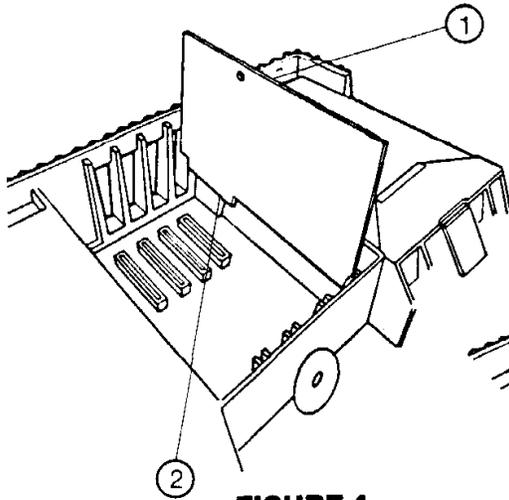

FIGURE 4
9. Grasp the ProFile interface card by the edge opposite the gold edge contacts. (Figure 4, Item 1).
NOTE: Never grasp the card by the gold fingers on the edge connector. (Figure 4, Item 2). The efficiency of the card decreases if it is dirty or scratched. Also, do not touch any of the components.